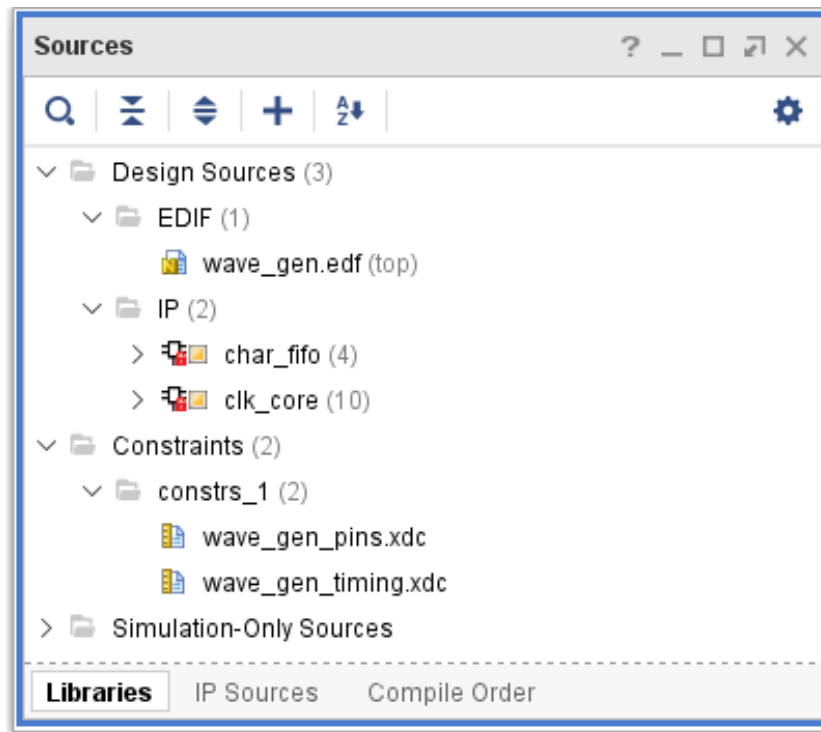

Figure 33: Project Sources
11. Expand the sources window as shown in Figure 33, to see the netlist, IP, and constraints that comprise the project.